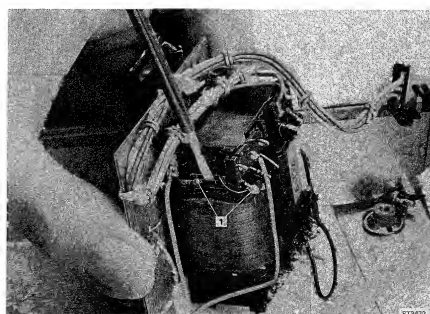

Fig. 45a. Removing the thermal fuse
- Unsolder the connections of the thermal fuse. (fig. 45a, item 1).
- Replace the thermal fuse as shown in fig. 45a.